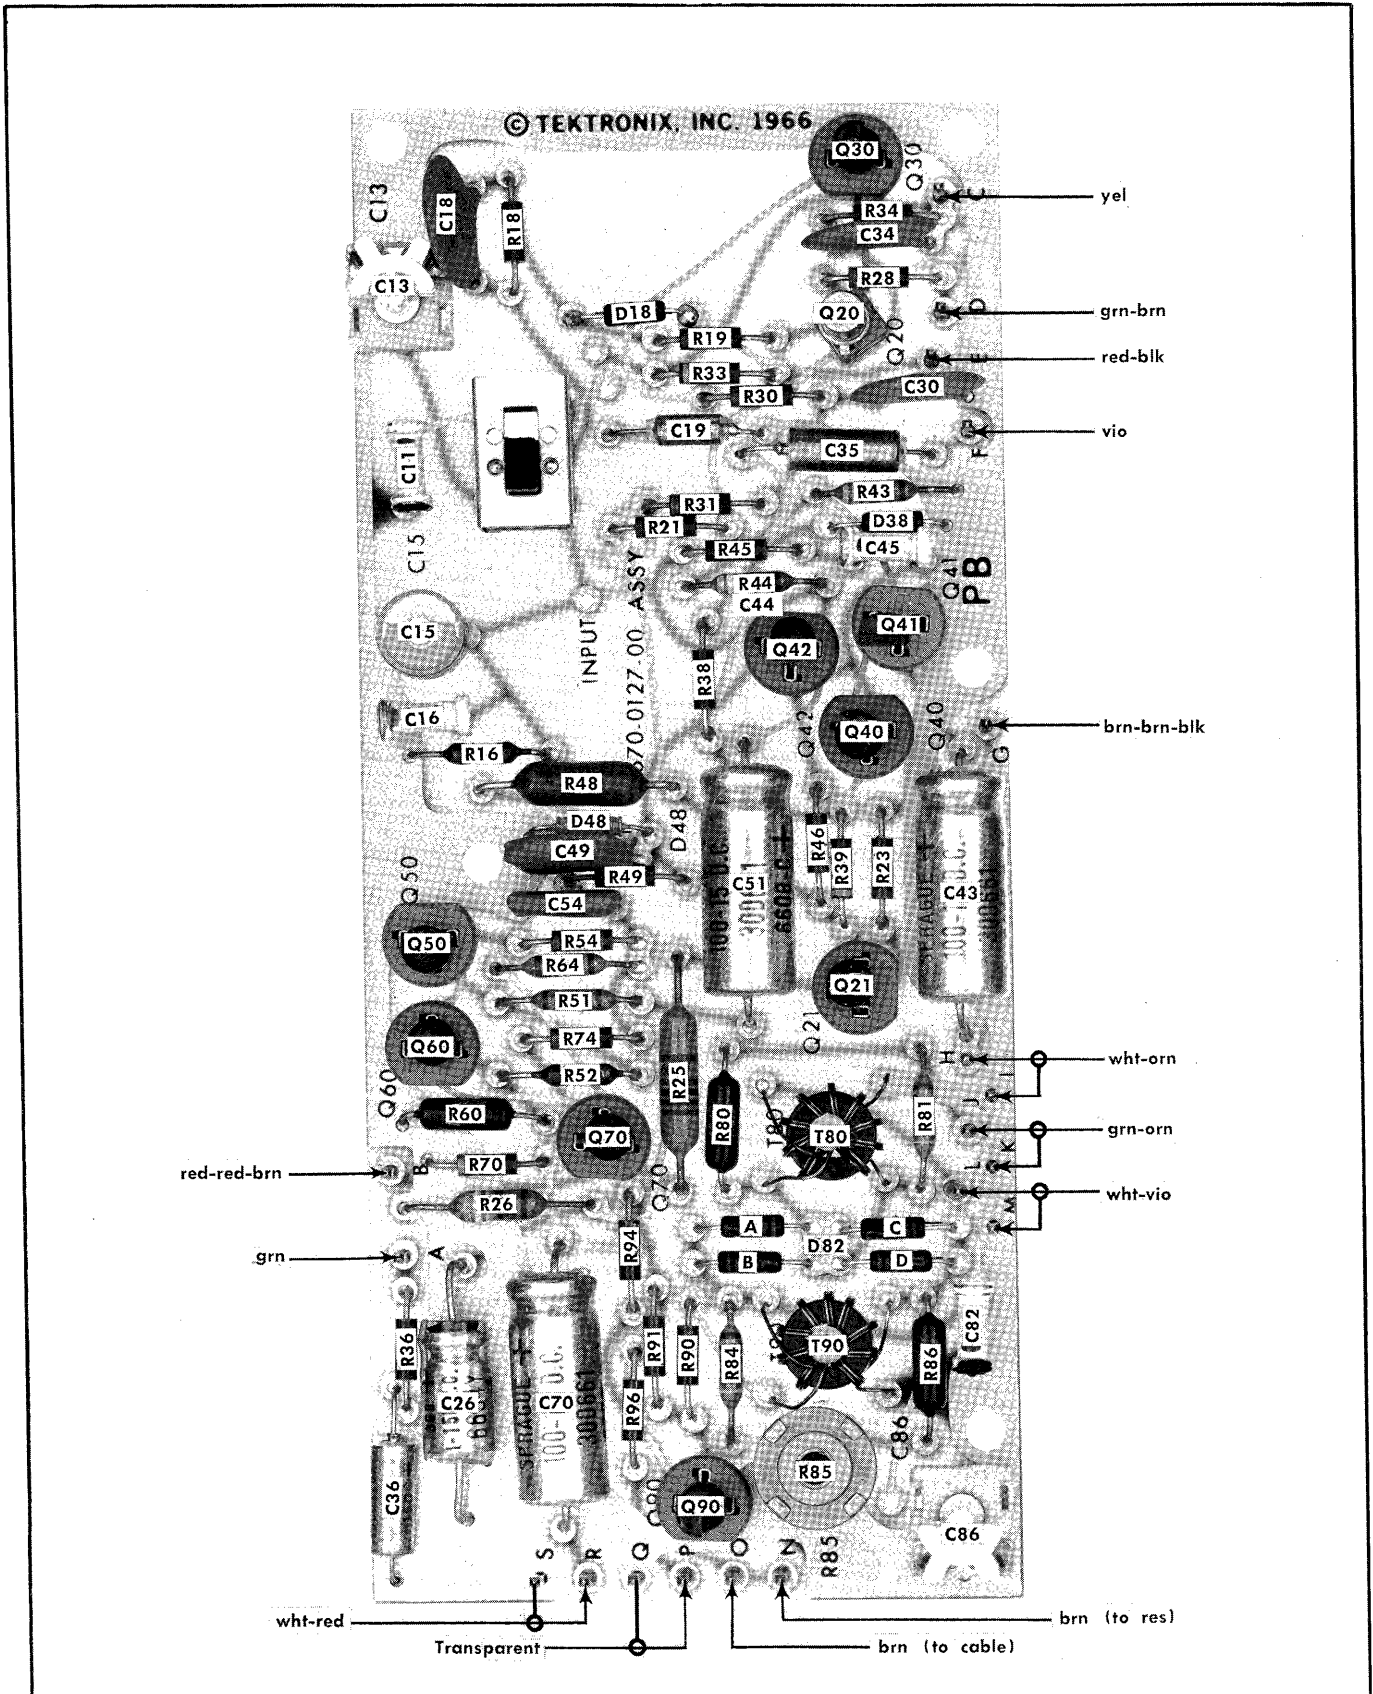

Fig. 4-4. Input Amplifier and 1st IF Mixer circuit board.
4. Lift the VOLTS/CM switch assembly up and back to clear the V/CM \div 100 linkage, then slide the board out from under the switch assembly. Figs. 4-4 through 4-7 should be used to identify the pin connectors with the wiring color code when replacing the pin connectors.
Circuit Boards. Figs. 4-4 through 4-7 show the individual boards, with the circuit numbers for each component. In addition, the circuit board sections on the diagrams are outlined in blue, to aid in locating individual components.
Check circuit voltages and waveforms against those shown on the diagrams of Section 9 of this manual. Fig. 4-4 through Fig. 4-7 provide board wiring and component layout information. If the trouble can not be isolated to a particular circuit, start with the power distribution circuit, then proceed consecutively from one circuit to the next.